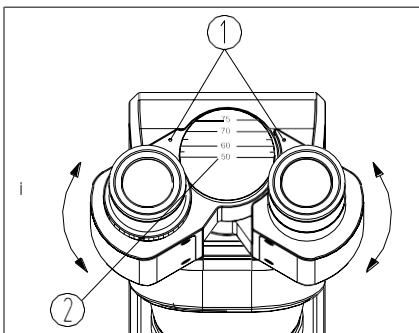

Fig.13
Observe specimen through both eyepieces, hold the base of the prism and rotate them around the axis to adjust the interpupillary distance, until there is single field of view. The dot “.”① on the eyepiece base points to the scale② of the interpupillary distance indicator. The scale value is the interpupillary distance (See Fig. 13). Adjustable range: 50~75mm.